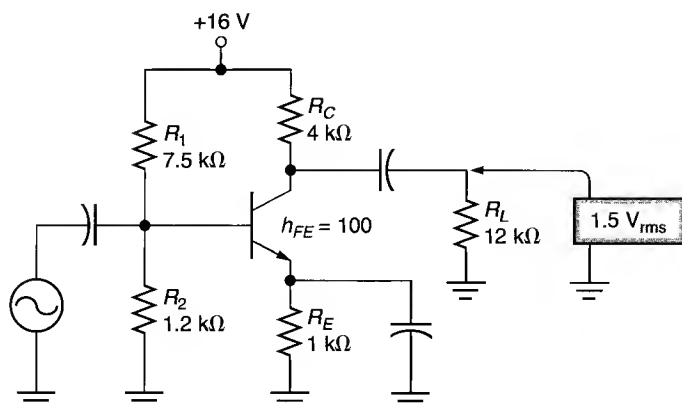

FIGURE 11.46
1. Calculate the compliance of the amplifier in Figure 11.46.
5. Calculate the value of P_S for the amplifier in Figure 11.46.
7. Calculate the value of P_L for the amplifier in Figure 11.46.
9. Calculate the maximum possible load power for the circuit shown in Figure 11.46.
11. Assuming that the amplifier in Figure 11.46 is driven to compliance, calculate the efficiency of the circuit.